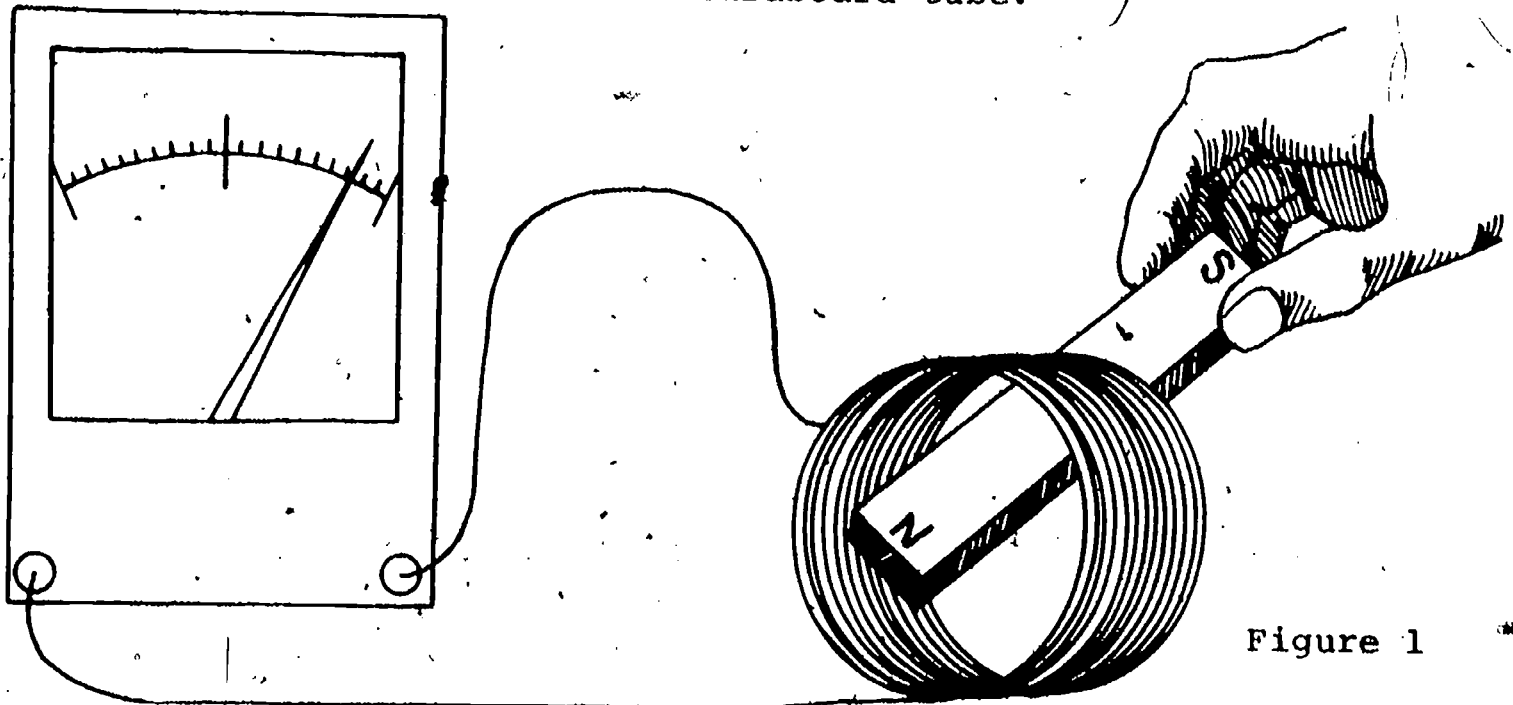

Figure 1
1. Set up apparatus as shown below in Figure 1. Make coil by wrapping wire around cardboard tube.